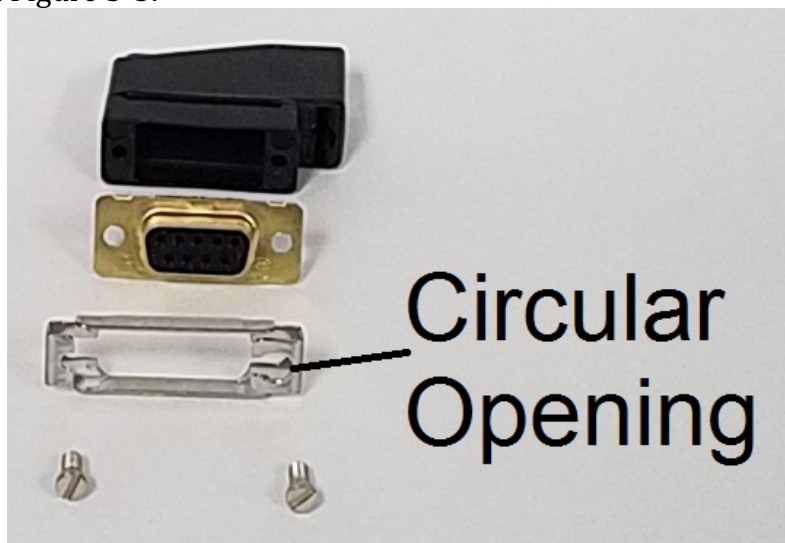

Figure 3-5
5.2. The pitch servo connector backshell and slidelock should be assembled as shown in Figure 3-5.